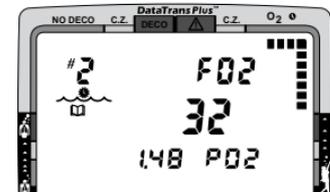

Fig. 78 - Log Mode
7. Press the Advance/Left button once to view the information associated with oxygen (Fig. 78). Displayed will be: Log Mode icon, dive Number, FO2 symbol and the value that FO2 was set at for the dive. If FO2 was set for a value other than 'Air', the PO2 symbol and value of the maximum partial pressure of oxygen attained during the dive will also be displayed. Also shown will be the oxygen loading (O2 bar graph) at the time you surfaced from the dive (maximum for that dive or 24 hour period, whichever was greater at the time). The O2 bar graph will also display the segment that represents the maximum level of oxygen exposure (dose) that you achieved during that dive.